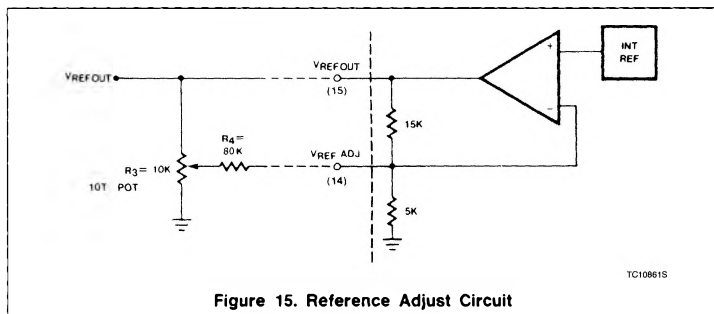

Figure 15. Reference Adjust Circuit
14) allows trimming of the reference output. Utilization of the adjust circuit shown in Figure 15 performs not only V_{REF} adjustment, but also full-scale output adjust. Notice that the $V_{REF ADJ}$ pin is essentially the sum node of an op amp and is sensitive to excessive node capacitance. Any capacitance on the node can be minimized by placing the external resistors as close as possible to the $V_{REF ADJ}$ pin and observing good layout practices.
A recommended full-scale adjustment circuit, when using the internal voltage reference, is shown in Figure 15. Potentiometer R_3 is adjusted until V_{OUT} equals 9.99023V. In many applications where the absolute accuracy of full-scale is of low importance when compared to the other system accuracy factors this adjustment circuit is optional.